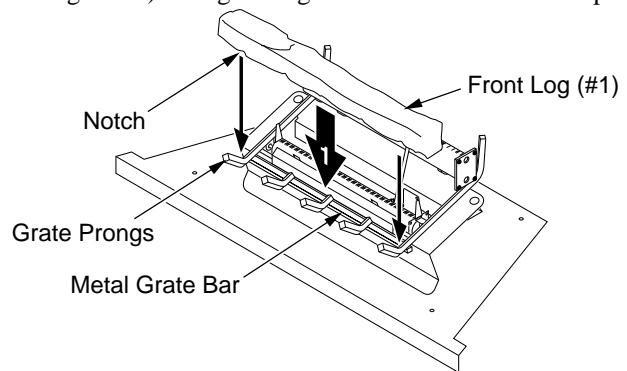

Figure 23 - Installing Front Log (#1)
1. Place front log (#1) on top of the grate. Make sure the notches in the bottom of the log fit over the grate prongs (see Figure 23). Push back of log flush with metal grate bar.